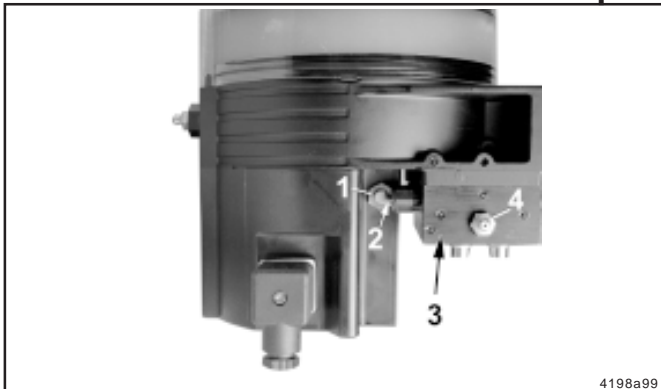

Fig. 13 - QLS 301 with back position of the SSV divider block
- SSV divider block mounted on the back (see fig. 13)